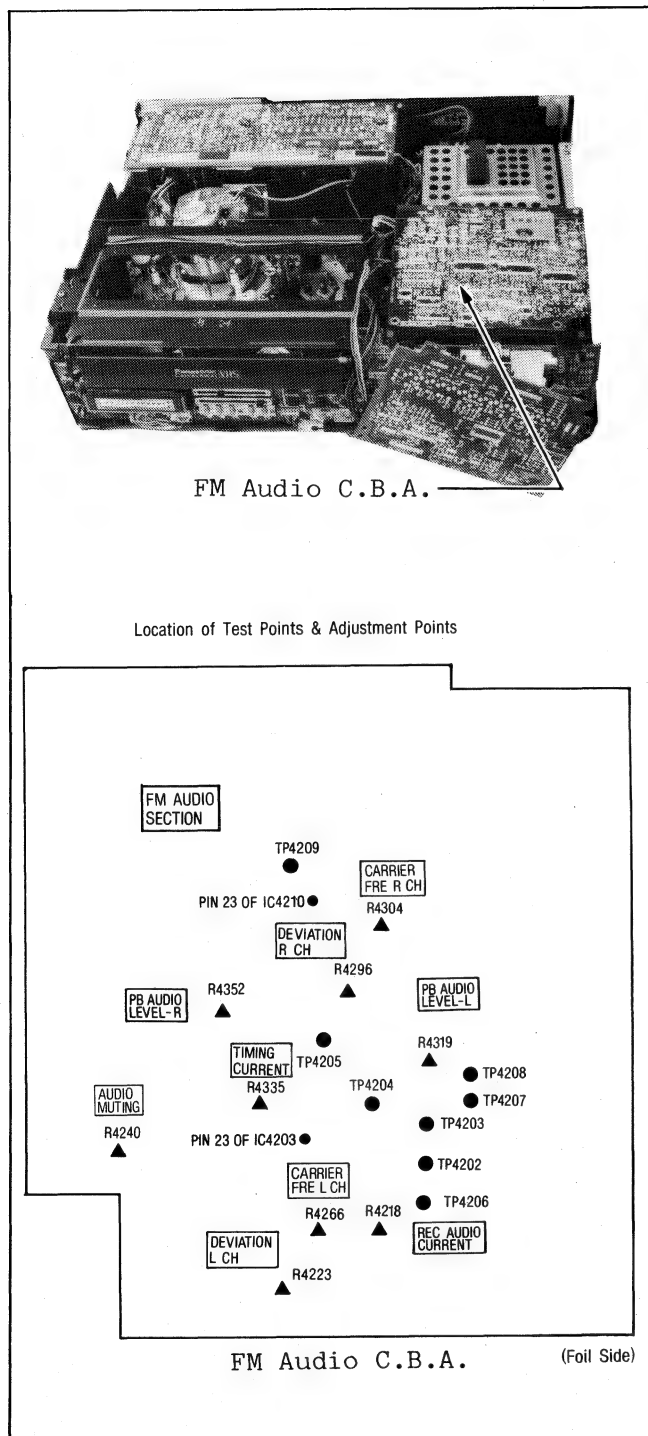

Fig. E14
3. Remove the Shield Plate on the FM Audio C.B.A. by removing the 3 plastic rivets that secure it to the C.B.A. Then lay the Shield Plate on the Cassette up Unit, underneath the C.B.A. Let the C.B.A. rest on the Shield Plate as shown in Fig. E14.